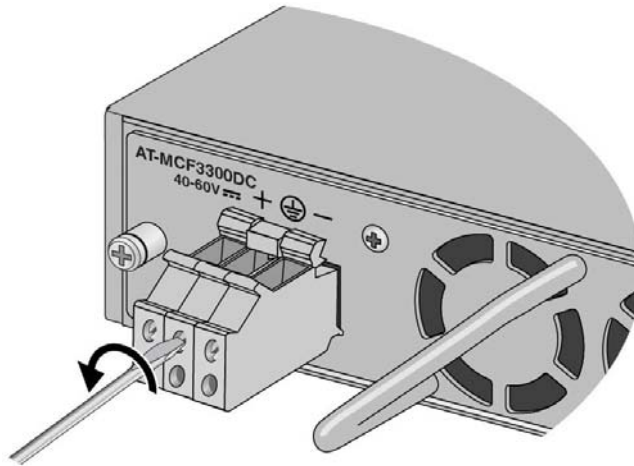

Figure 58. Loosening the Ground Screw on the MCF3300DC Power Supply
5. Loosen the retaining screw to the Ground connector on the power supply with a #1 flathead screwdriver. Refer to Figure 58.